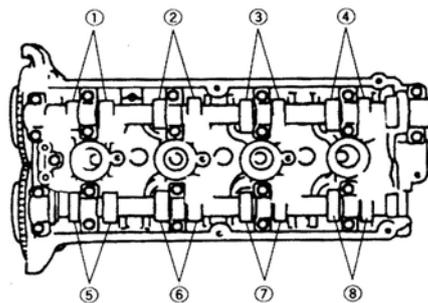

Fig. 4-203
- 3) As shown fig.4-203, use 17mm double offset ring spanner to turn crank pulley clockwise till the bulge of camshaft is normal to the surface of adjusting gasket in the area of ① and ⑦ (valve number is from ① to ⑧ as shown
in fig.4-203)